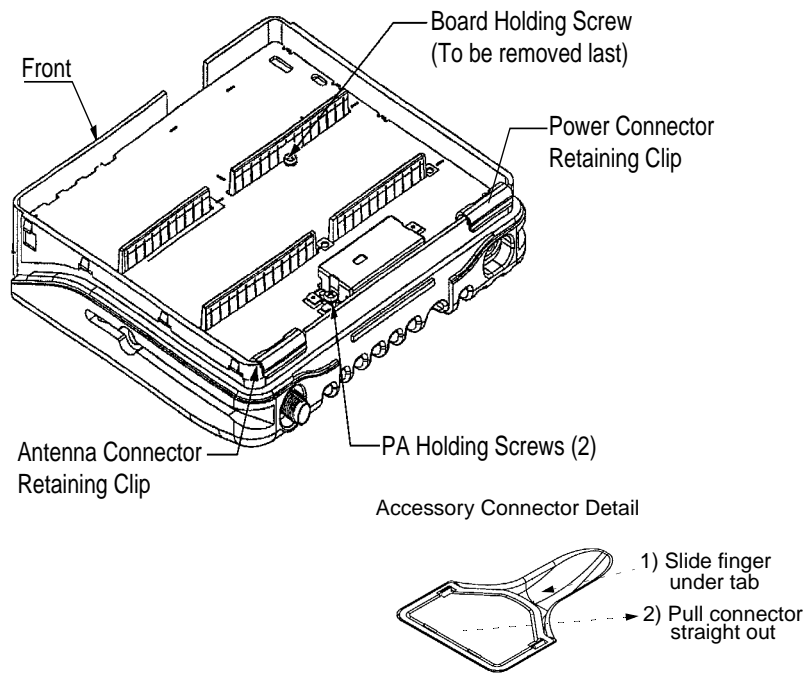

Figure 5-8. Removing the Transceiver Board (800 MHz and 900 MHz only)
5. Carefully remove the transceiver board by rotating it out of the chassis. Slowly lift the board on the front edge while pushing up on the board through the accessory connector opening (see Figure 5-8).